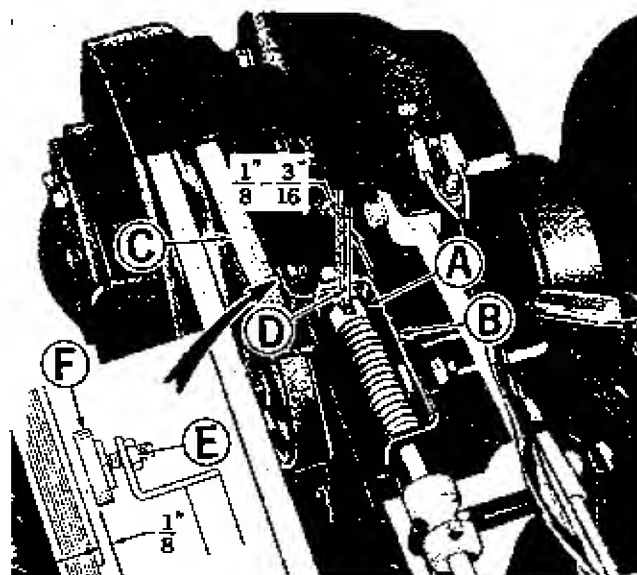

Figure 10. Shuttle drive forward adjustment.
5. See figure 10. Loosen nut (E) and turn brake pad (F) so there is $\frac{1}{8}$ " clearance between the brake pad and the drive pulley. Tighten nut (E) securely.
6. See figure 10. Use the following procedures to adjust the forward clutch.
- b. See figure 10. Loosen the set screw in collar (A). Push the rod guide assembly (B) forward until slack is removed from the forward drive belt (C).
- e. See figure 10. The distance (D) between the rod guide and collar (A) should be $\frac{1}{8}$ " to $\frac{3}{16}$ ". If it is not, repeat steps a. through d. until distance (D) is $\frac{1}{8}$ " to $\frac{3}{16}$ ". Place more tension on belt (C) to increase distance (D) or less tension to decrease the distance.
Will not pull forward with full power. Repeat adjustment step 6 placing more tension on the clutch belt. (figure 10, item C).
Tractor creeps forward when control lever is in neutral. Repeat step 6 placing less tension on the clutch belt. (figure 10, item C).